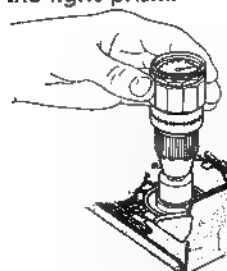

Fig. 3
- Place a torque meter part no. 3621027 with adaptor part no. 3014064 on the right reel (fig. 3).